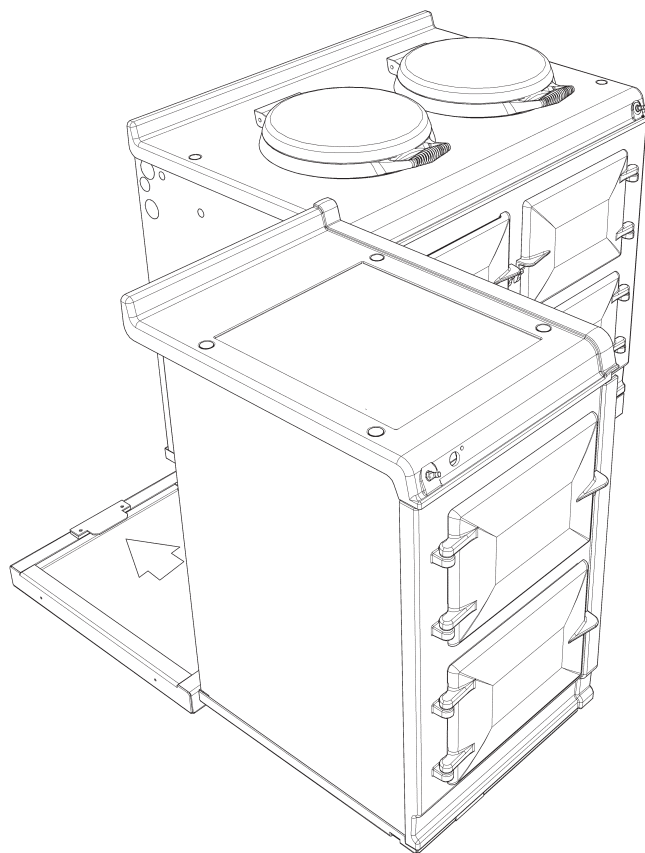

Fig. 20
6. Slide hotcupboard onto plinth until rear tongue bracket engages fully into rear of base slot, (See Fig. 20). Ensure the appliance is aligned squarely with the plinth then proceed to engage the front tongue bracket into the slot on the under side of the base plate. Once satisfied that the front tongue bracket is engaged fully lock it into place by tightening the two M6 screws fully. Ensure that the electrical cable does not come into contact with oven vent pipe from the AGA DC3.